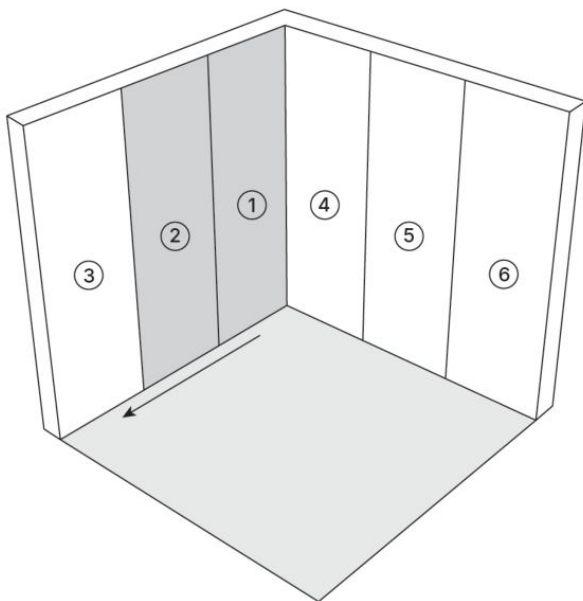
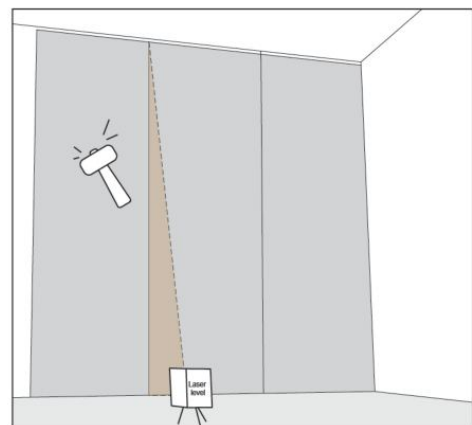

Fig.21
Fig.26
- The installation method is the same as that of panels 2 to 3, please refer to fig.21 to fig.26. Note that the locking tongues are on the left and bottom of the wall panel.